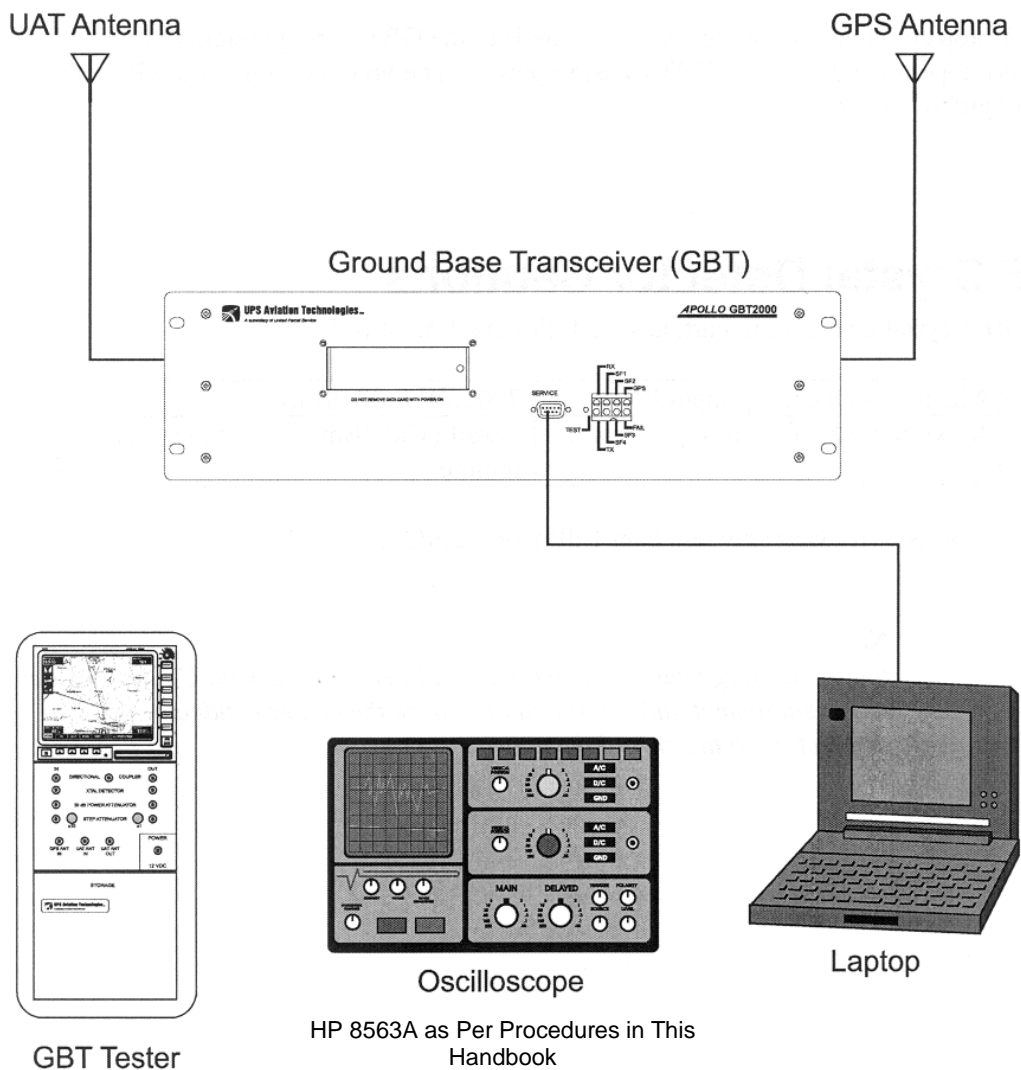

Figure 5-1 SYSTEM TEST SETUP
a. The system must be removed from service in order to perform testing. Initial GBT Test Set setup must be performed in preparation for the performance tests. The following setup sequence is a general starting setup. Each test procedure will have specific information to modify this standard setup for the particular test being performed. The system test setup is shown in Figure 5-1.